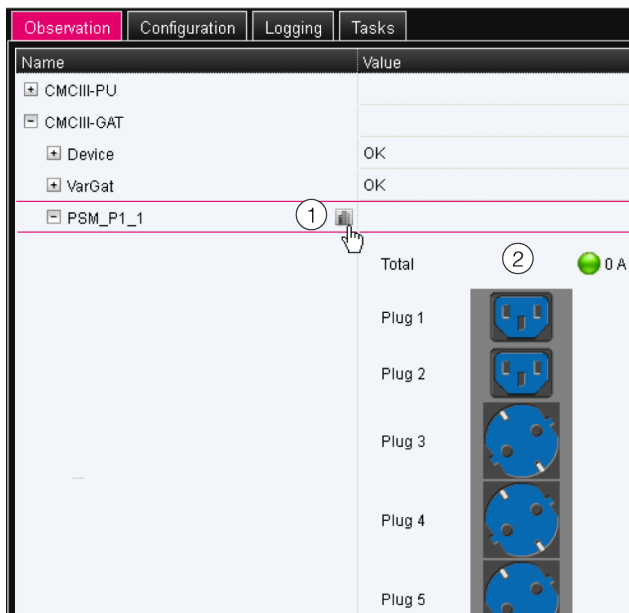

Fig. 14: Graphical display
The display switches to the graphical display (fig. 14). All of the current switching states can be modified and viewed at a glance.
In addition, you also obtain an overview of the status of the components, which are colour-coded (fig. 14, item 2):
- Click the grey-scale "graph" symbol after the "PSM_P1_1" entry (fig. 14, item 1).
- Move the mouse cursor in the table to the corresponding output for which you want to change the settings (fig. 14, item 2).